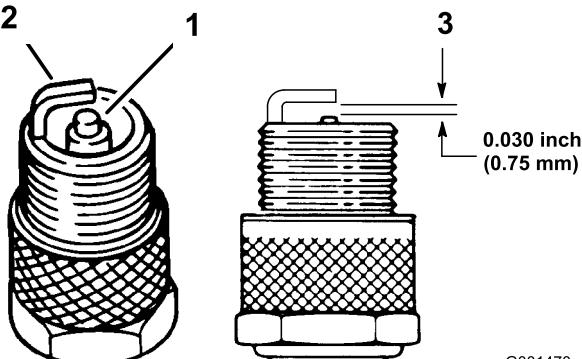

Figure 23
1. Look at the center of the spark plugs (Figure 23). If you see light brown or gray on the insulator, the engine is operating properly. A black coating on the insulator usually means that the air cleaner is dirty.
2. Check the gap between the center and side electrodes (Figure 23). Bend the side electrode (Figure 23) if the gap is not correct.
3. Connect the wires to the spark plugs (Figure 23).